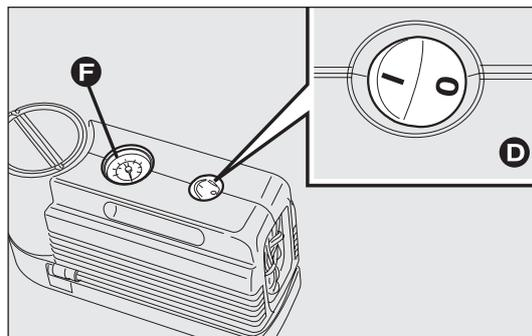
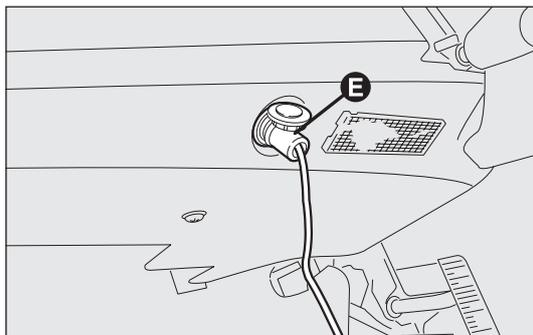

fig. 153
fig. 154
- make sure that switch D-fig. 153 for the compressor is in position 0 (off), start the engine, insert pin E-fig. 154 into the nearest socket and switch on the compressor by moving switch D-fig. 153 to position I (on) Inflate the tyre to the pressure specified in the “Tyre pressure” paragraph in the “Technical specifications” section.
For a more accurate reading, check pressure gauge F-fig. 153 with the compressor off;